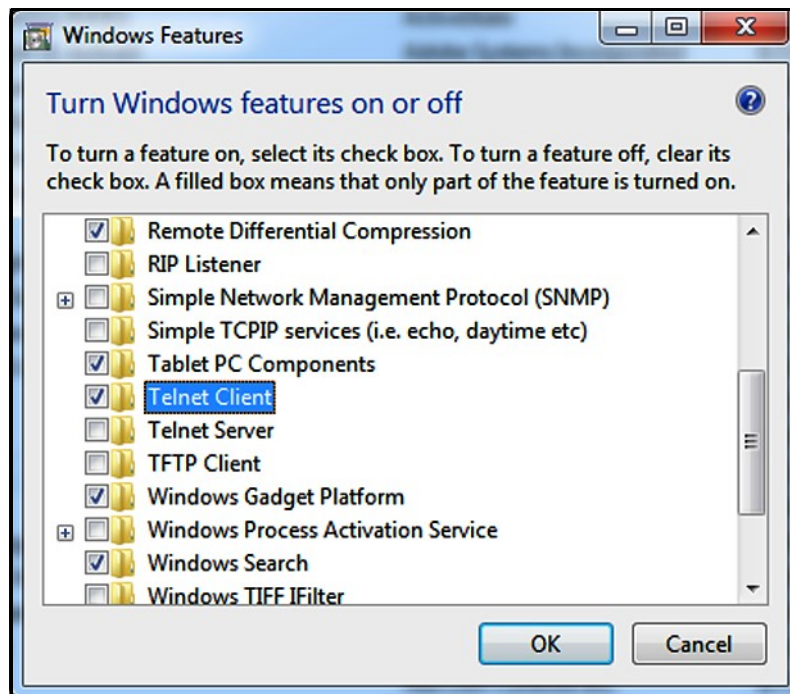

Figure 73: Windows Features Dialog Box
4. In the Windows Features dialog box, check the Telnet Client check box (see *Figure 73* below).